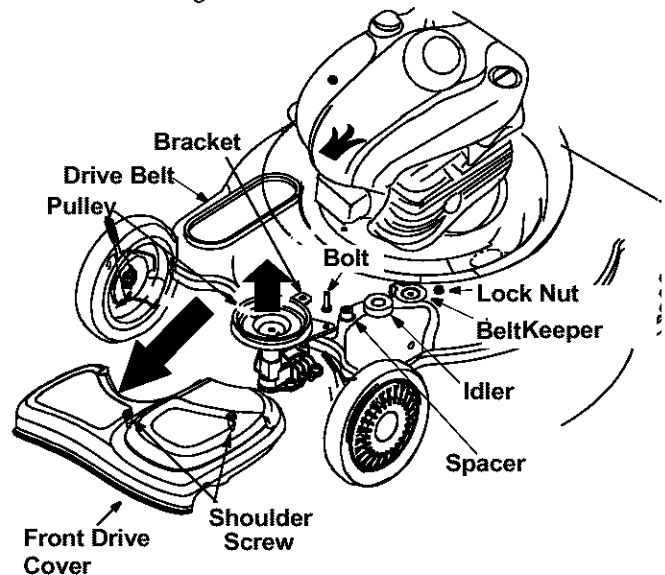

Figure 17
- Remove the two shoulder screws securing the front drive cover to the mower deck. See Figure 17.
- Remove the idler and hardware from idler bracket using 7/16” wrench and socket. See Figure 17.
- Remove the belt from the transmission pulley as shown in Figure 17.